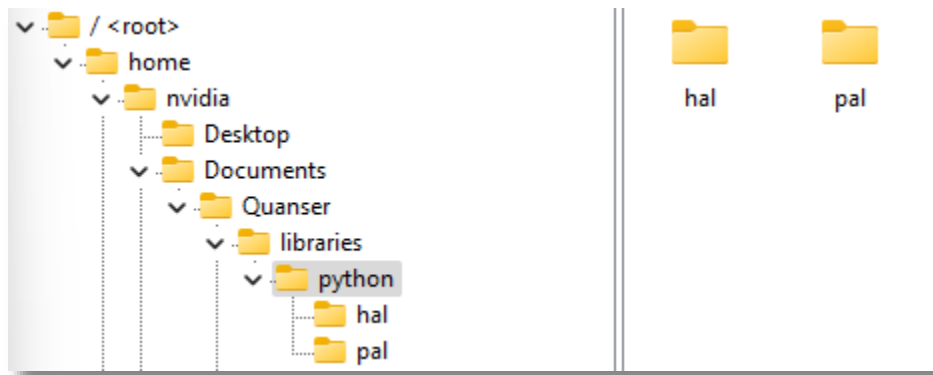

Figure 4. 'hal' and 'pal' folder in correct directory
- b. navigate to "`~\Documents\Quanser\libraries\python`" on the QBot Platform as shown in Figure 4, create these directories if they don't exist. Copy over the "hal" and "pal" folder from your local Windows machine, replacing existing files on QBot.